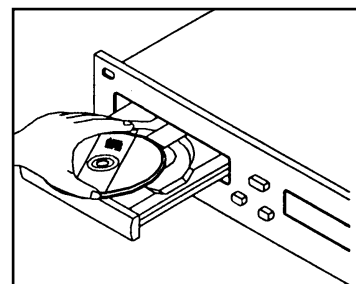
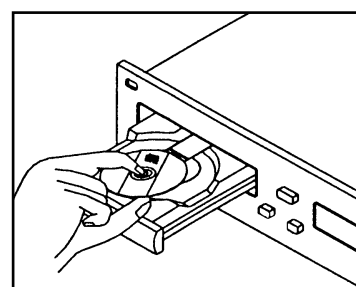

Fig. 7
Fig. 8
- When using 5 inch/12 cm discs, place the disc in the outer tray guides (Fig.7), and when using 3 inch/8 cm discs, place them securely in the inner guides (Fig.8).